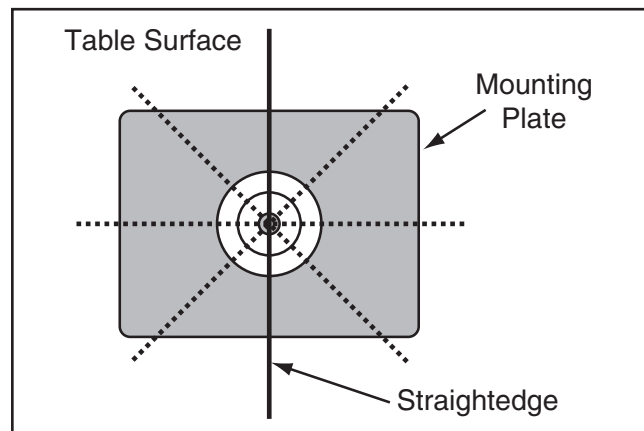

Figure 19. Pattern for aligning mounting plate.
9. Lay straightedge across mounting plate, plate insert, and table surfaces in pattern shown in **Figure 19**.